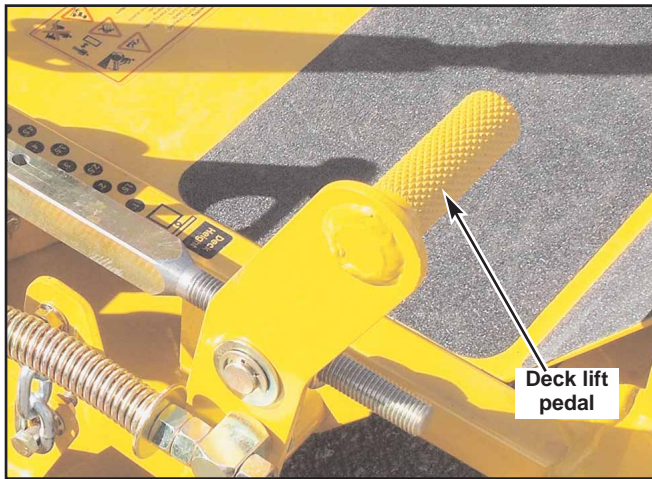

Figure 3-4
- B. Deck lift pedal (Fig. 3-4)** — the deck lift pedal is used to raise or lower the deck. Push on the pedal to raise the deck and then place the deck height locking pin into the desired cutting height hole. Push the deck lift pedal to raise the deck when going over obstructions.